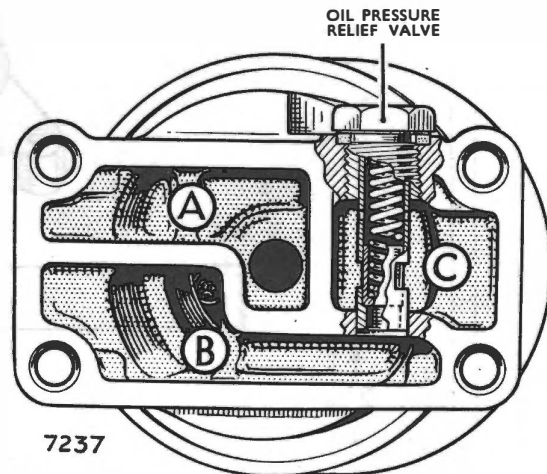

Fig. 53. Throw away type full flow filter—oil pressure relief valve
**Oil pressure relief valve. (See Fig. 53)**